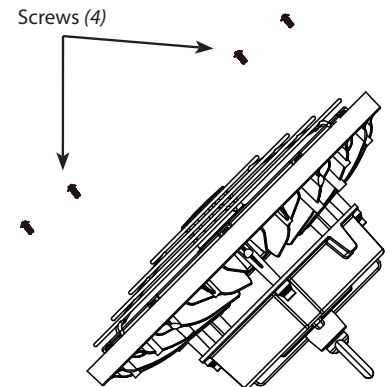

Fig: 3
3. Secure the **Wire Guard** to the **Heat Sink** with (4) 4x8mm Screws (*provided*) as shown in Fig. 3.